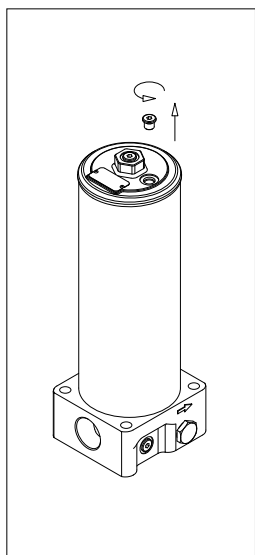

fig. 13
- (Fig. 13) Unscrew the breather plug of the DIRTY SIDE (located on nameplate surface)